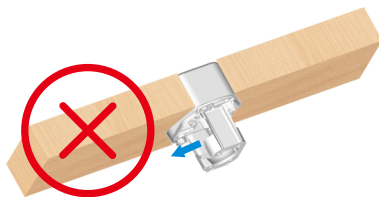

Fig. 5.5
1. When installing the mounting bracket, the bracket groove should be facing upward, as shown in Fig. 5.4. Do not install the bracket with the groove facing downward, as shown in Fig. 5.5.